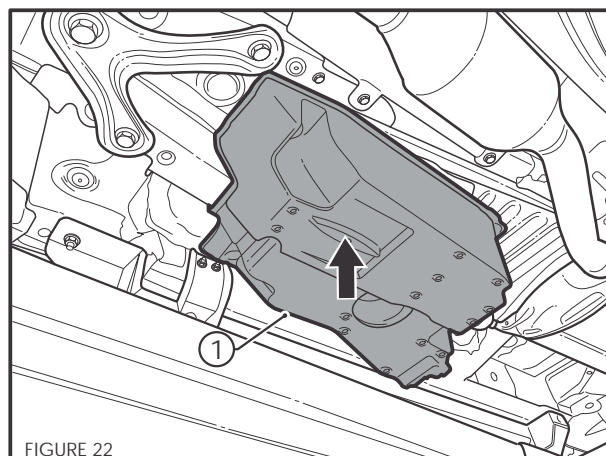

FIGURE 22
- Re-install the plastic undercover (1) as shown in Figure 22.